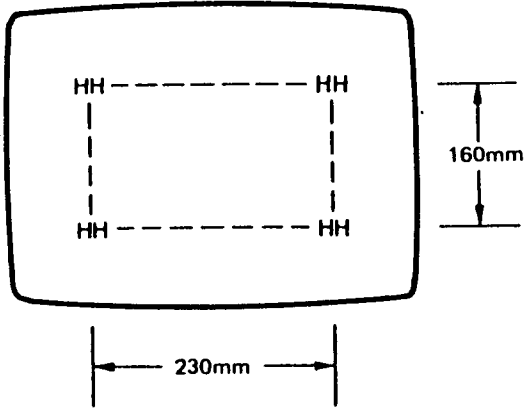

Fig. 5
- (1) Operate the personal computer so that character H appears all over the screen as shown in Fig. 5.
- (2) Adjust H. PHASE volume R716 so that left and right of the picture are balanced.
- (3) Adjust V. CENT volume R628 so that top and bottom of the picture are balanced.
- (10) Turn the R.B.G BKG VRs gradually clockwise and set them to the points where thin bright lines of red, green, blue start appearing evenly. (When VR-A is not present, use the BKG-VR corresponding to the thinnest color at low brightness.)
- (11) Remove the connecting wire between P60 and P61.
- (12) Remove the jig connected to P801 and P802.
- (13) Turn the CONTRAST control fully clockwise to adjust so that brightness of the green "H" character signal is 60 lux at the center of the screen.
- (14) Receive the white pattern signal.